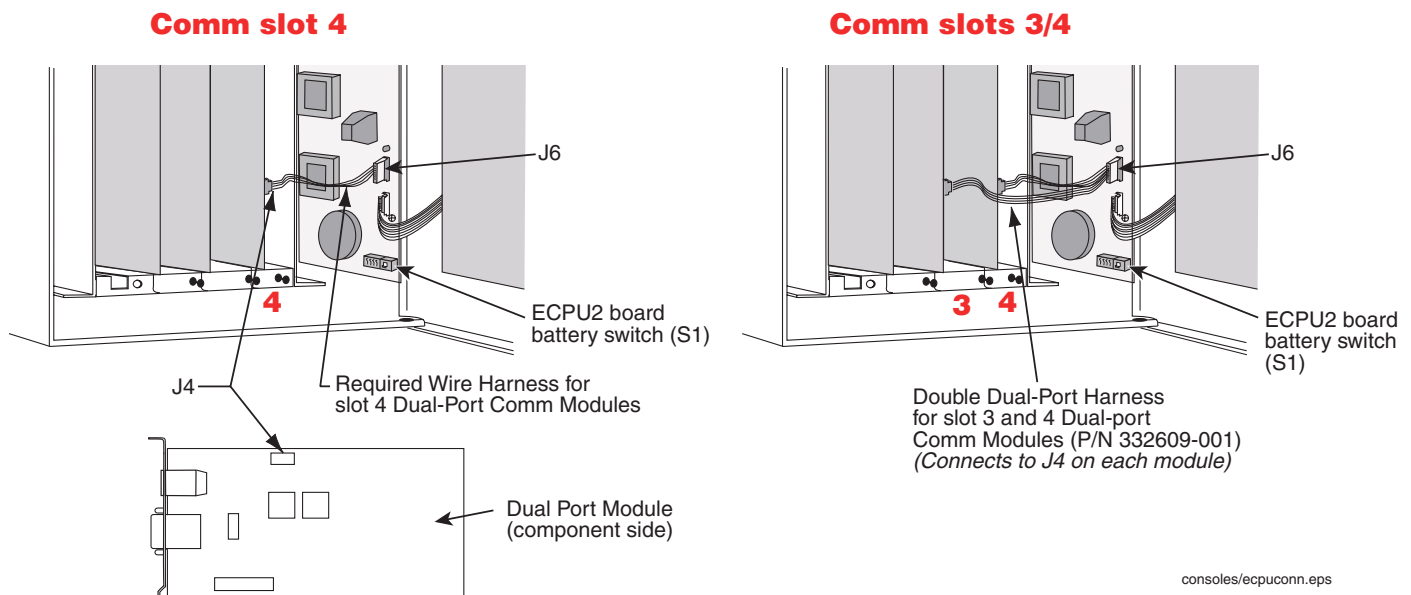

Figure 2. Dual Port Module Wiring Harnesses
Before installing the dual-port module in slot 4 of the Comm bay, connect the 4-pin connector (of the included wiring harness) to J4 on the Module. After the module is installed, connect the 8-pin connector of the harness to J6 on the ECPU/ECPU2 board (refer to Figure 2 on page 6). Two dual-port modules can be installed in slots 3 and 4 by using a double dual-port wiring harness (P/N 332609-001).
7. Connect the appropriate cable(s) to the new or replacement Comm module's end plate connector(s). If you are adding a Dual-Port Comm Module, connect the wiring harness to J4 on the Dual Comm Module board and to J6 on the ECPU/ECPU2 board (see Figure 2 on page 6).
6. Remove and label any attached connectors from the existing Comm Module's end plate (underneath the console) that will be reused by the replacement Comm Module. If you are removing a Dual-Port Comm Module, disconnect the wiring harness from J4 on the dual-port module and from J6 on the ECPU/ECPU2 board (see Figure 2 on page 6). Pull on the fastener in the modules end plate until it unsnaps, then remove the Comm module.
8. Connect the appropriate cable(s) to the new Comm Module's end plate connector(s). If you are swapping dual-port Comm modules, reconnect the wiring harness to J4 on the dual-port Comm module board and to J6 on the ECPU/ECPU2 board (see Figure 2 on page 6).